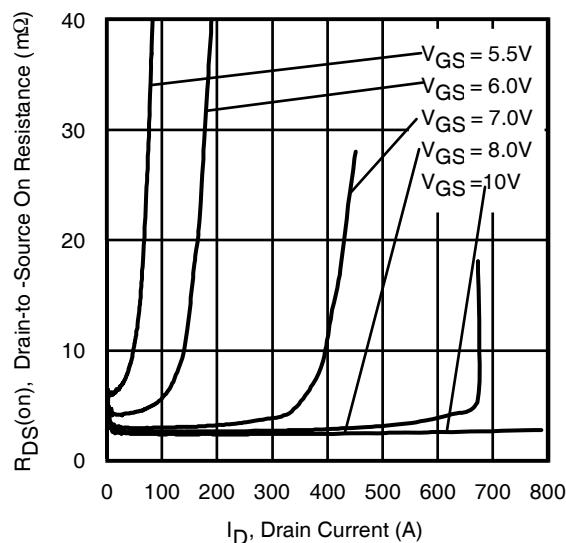

Fig 13. Typical On-Resistance vs. Drain Current
- Z_{thJC}(D, t_{av}) = Transient thermal resistance, see Figures 13)